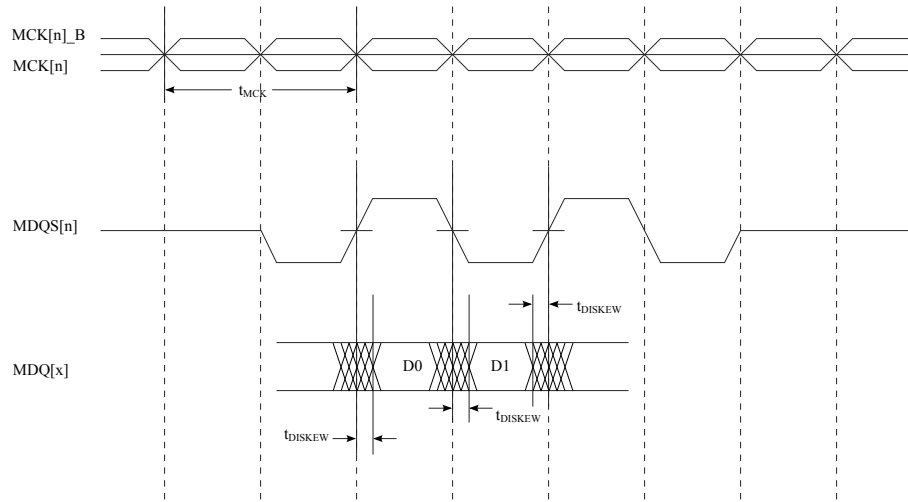
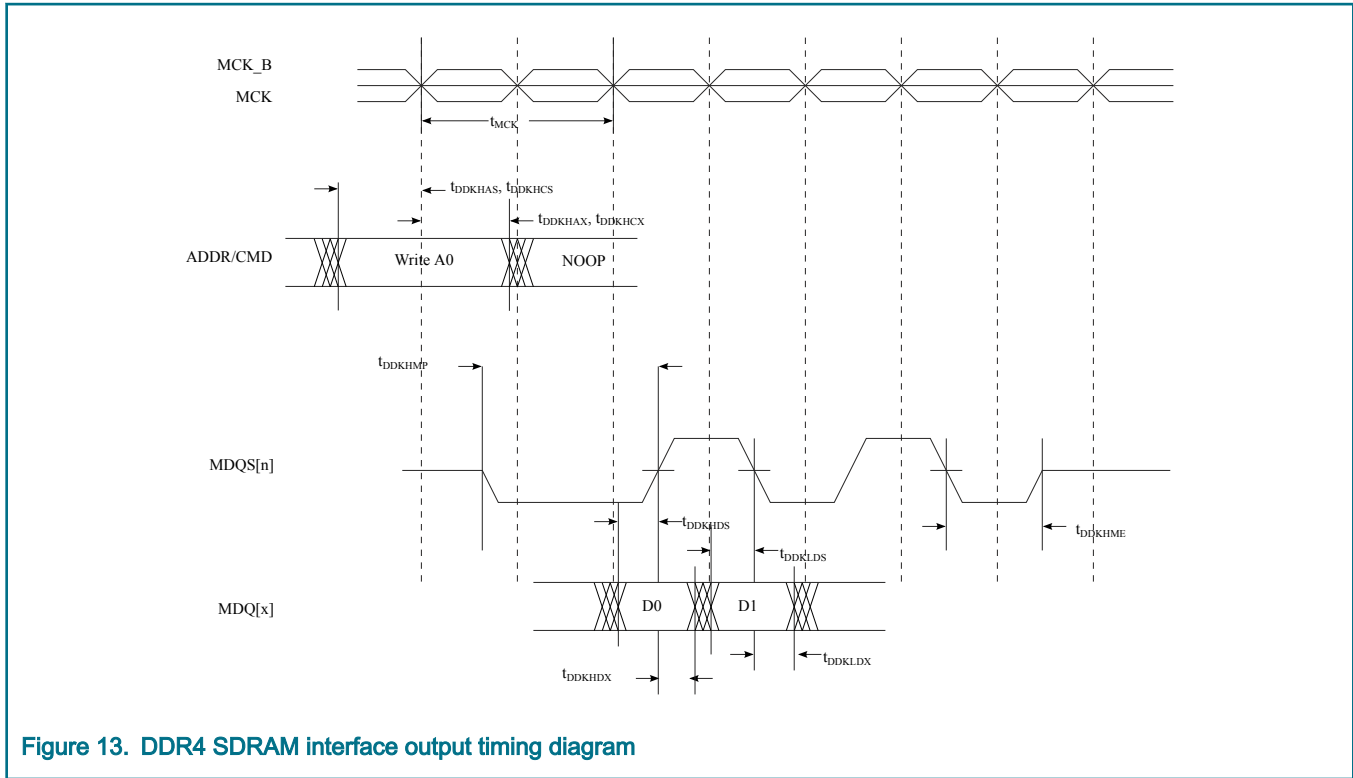

Figure 12. DDR4 SDRAM interface input timing diagram
Figure 13. DDR4 SDRAM interface output timing diagram
3. See Figure 12.
2. See Figure 12.
4. The symbols used for timing specifications follow the pattern of  $t_{(first\ two\ letters\ of\ functional\ block)(signal)(state)\ (reference)(state)}$  for inputs and  $t_{(first\ two\ letters\ of\ functional\ block)(reference)(state)(signal)(state)}$  for outputs. Output hold time can be read as DDR timing (DD) from the rising or falling edge of the reference clock (KH or KL) until the output went invalid (AX or DX). For example,  $t_{DDKHAS}$  symbolizes DDR timing (DD) for the time  $t_{MCK}$  memory clock reference (K) goes from the high (H) state until outputs (A) are setup (S) or output valid time.
6. See Figure 13.